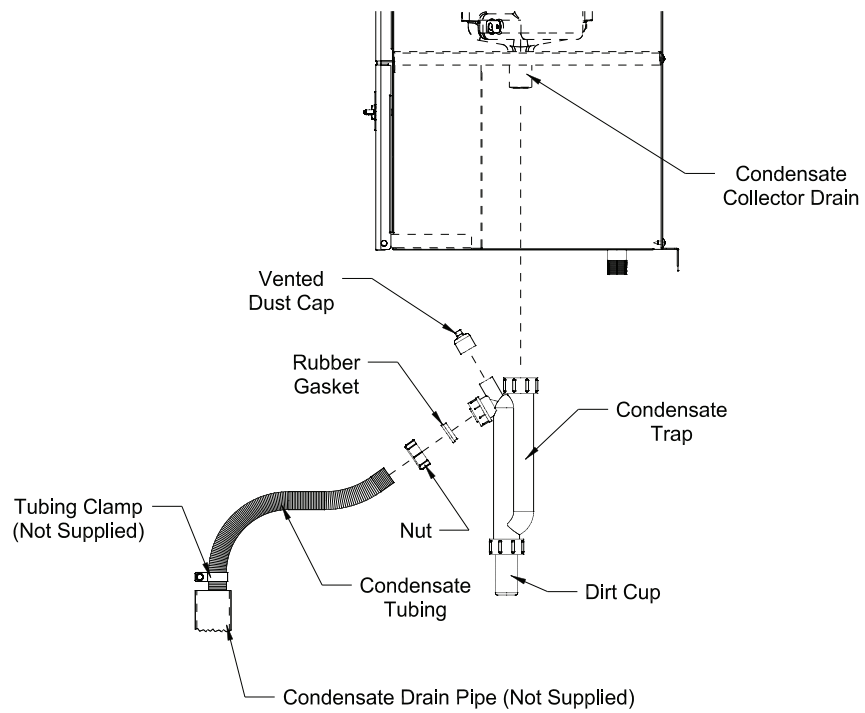

FIGURE 1.23: CONDENSATE PIPING ARRANGEMENT (BWC070/090/120/151)
All condensate which forms in the boiler or vent system collects in the sump under the heat exchanger and leaves the boiler through the condensate trap. This trap allows condensate to drain from the sump while retaining flue gases in the boiler. On some BWC series boilers, this trap is supplied loose and must be installed as shown in Figure 1.23. A length of drain hose is supplied with the boiler and is connected to the trap as shown in Figures 1.23 and 1.24. Note the following when disposing of the condensate:
1. If the condensate drain line must be extended, construct the extension from PVC or CPVC pipe. Insert the hose provided with the boiler into the end of the extension as shown in Figure 1.23 or 1.24, as appropriate.
6. Do not attempt to move the trap from the location shown in Figure 1.23 or 1.24. Do not attempt to substitute another trap for the one provided with the boiler.
7. The vent shown in Figures 1.23 and 1.24 must be left open for the trap to work properly.